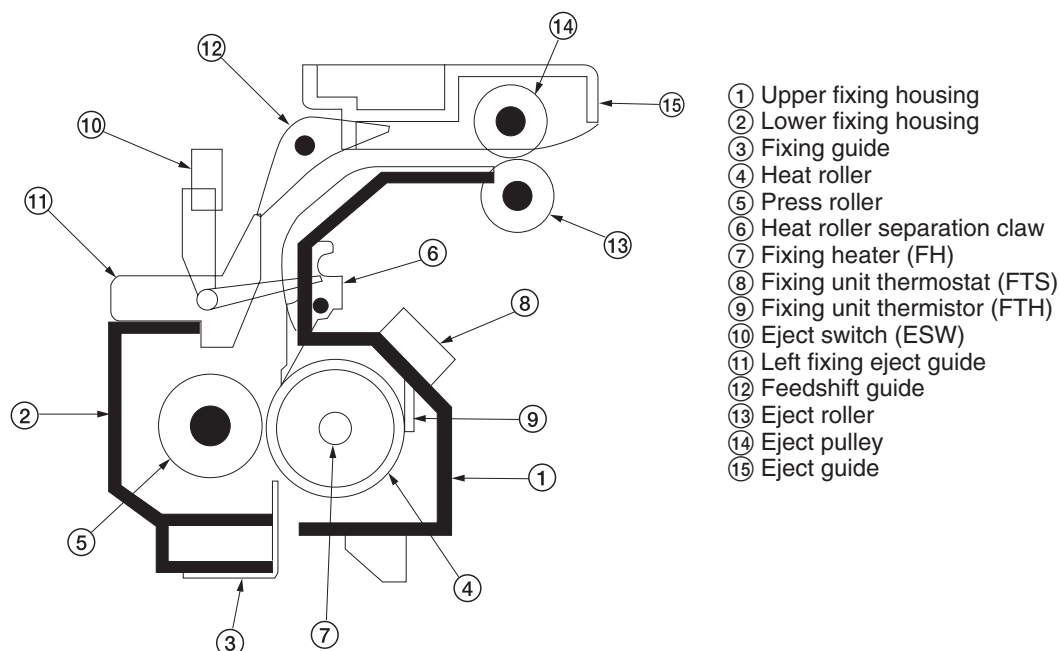

Figure 2-1-25 Fixing section
The fixing section consists of the parts shown in Figure 2-1-25. When paper reaches the fixing section after the transfer process, it passes between the press roller and heat roller, which is heated by the fixing heater (FH). Pressure is applied by the fixing unit pressure springs so that the toner on the paper is melted, fused and fixed onto the paper.